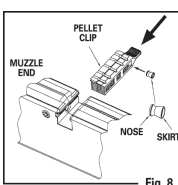

Fig. 8
- Place a pellet (nose first), in each of the five pellet chambers (Fig. 8).